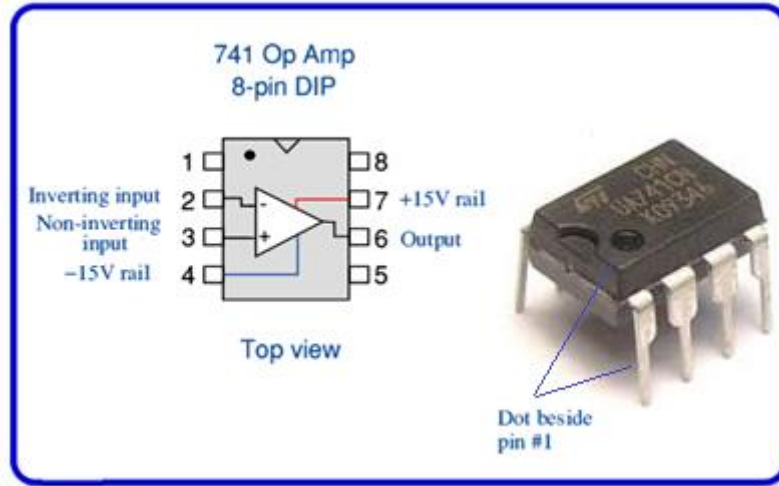

Figure 1 The popular μ A 741 op amp IC package and its pinout.
The op amp is a versatile *integrated circuit* (IC) that perform various types of analog signal processing tasks. The most popular op amp is the μ A 741 which was introduced by Fairchild in 1968 to become the industry standard. Its pinout is shown in Figure 1.